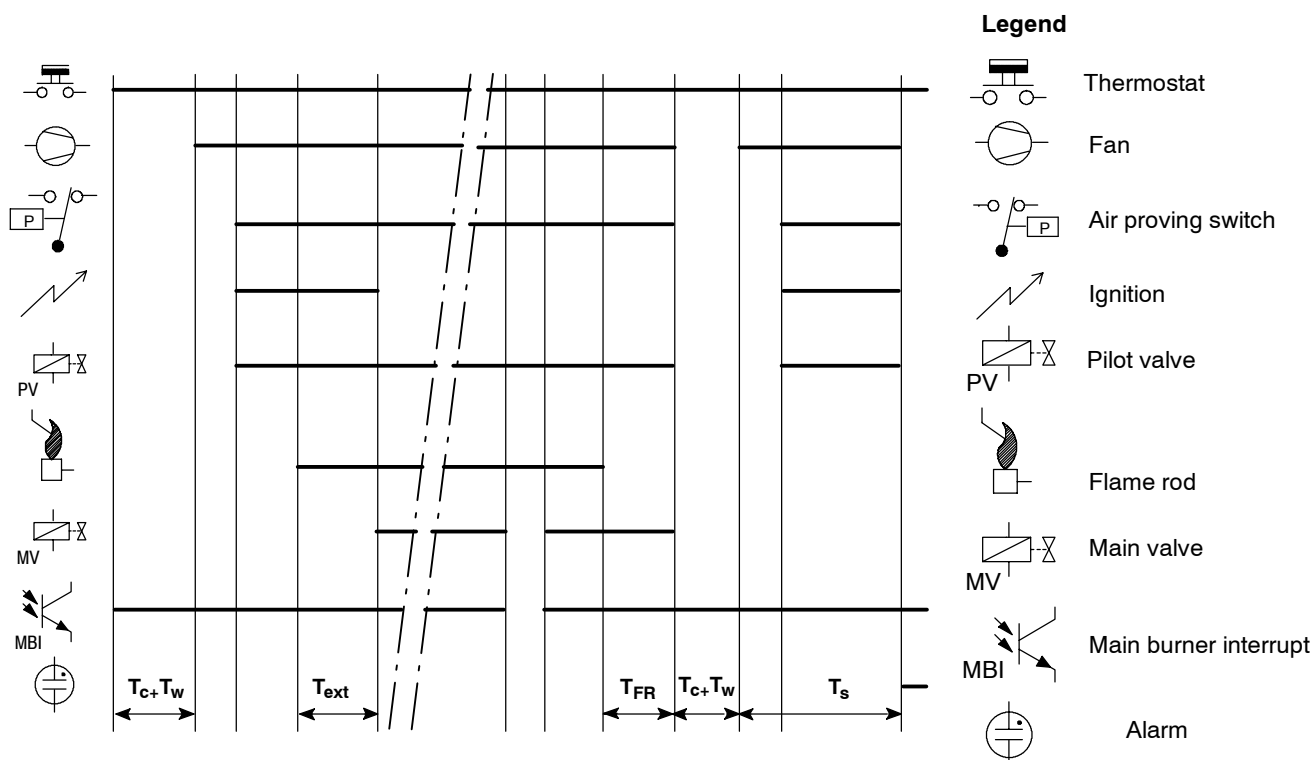

Fig. 40. Functional diagram S4565DF, TF
**Suffix DF and TF (see fig. 40.)**